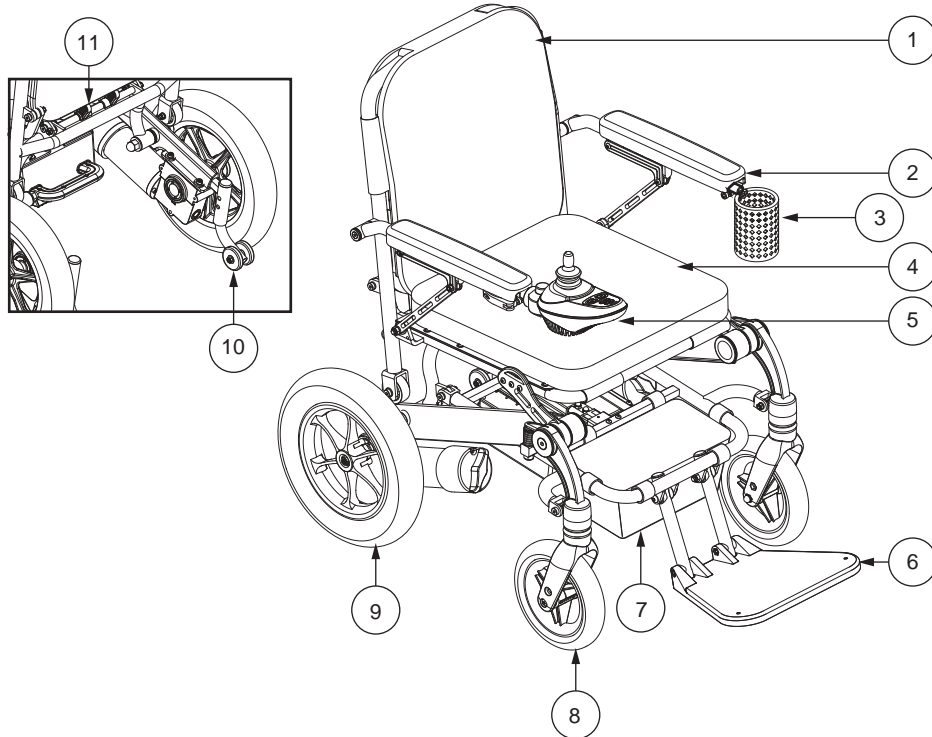

Figure 1. The iGo+®
The iGo+® is a power chair that you can easily fold for transportation or storage. The battery box slides into the rear of the power base. **See figures 1 and 2** for power chair components.
2. Standing at the rear of the chair, locate the locking mechanism. **See figure 1.**
1. Standing at the rear of the chair, locate the locking mechanism. **See figure 1.**